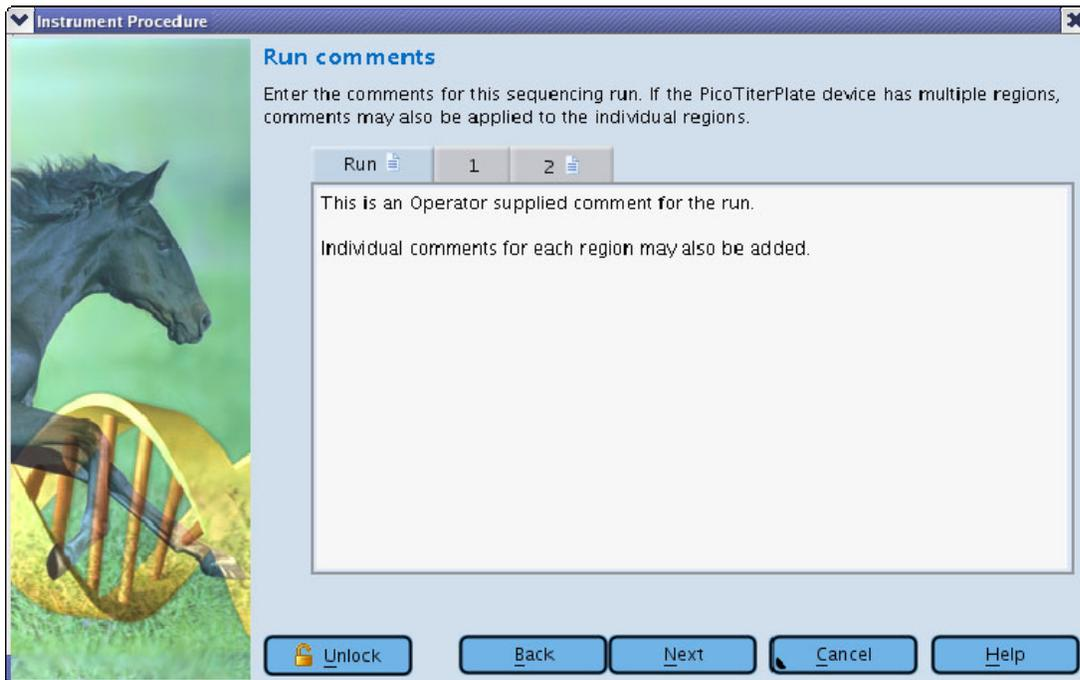

Figure 17: GS Sequencer Run Wizard – ‘Run comments’ window
9. Run comments (Figure 17) – This window allows operators to supply any comments about the Run. A tab is always present to assign comments to the Run. If the gasket used included 2 or more regions, additional tabs are displayed allowing comments to be associated with individual regions.